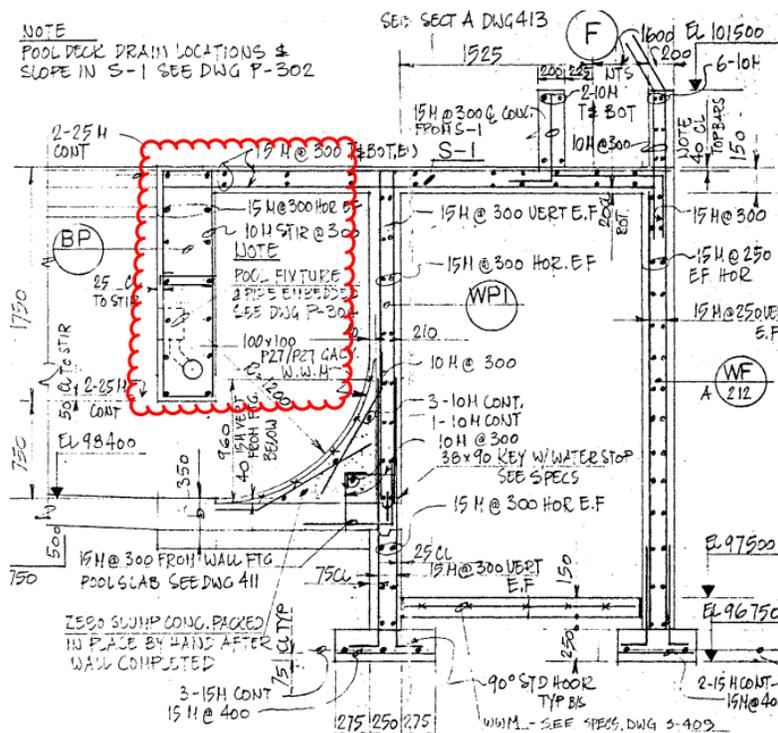

Figure 2: Section 1 through south pool deck
- Removal of concrete half-wall and deck slab indicated in Figure 2 on the south side of the pool